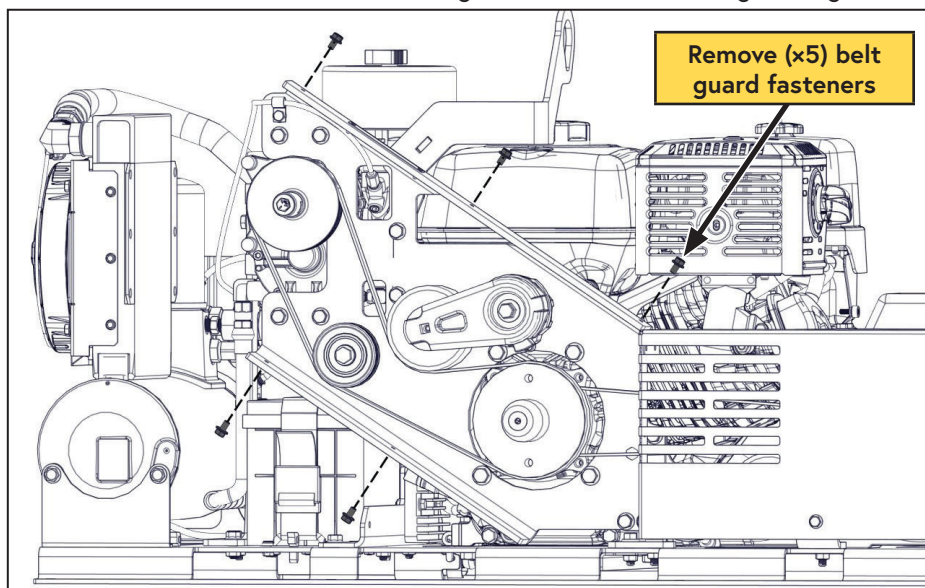

Figure 71 — Remove the belt guard
- Remove the (x5) fasteners from the belt guard and remove the belt guard (Figure 71).